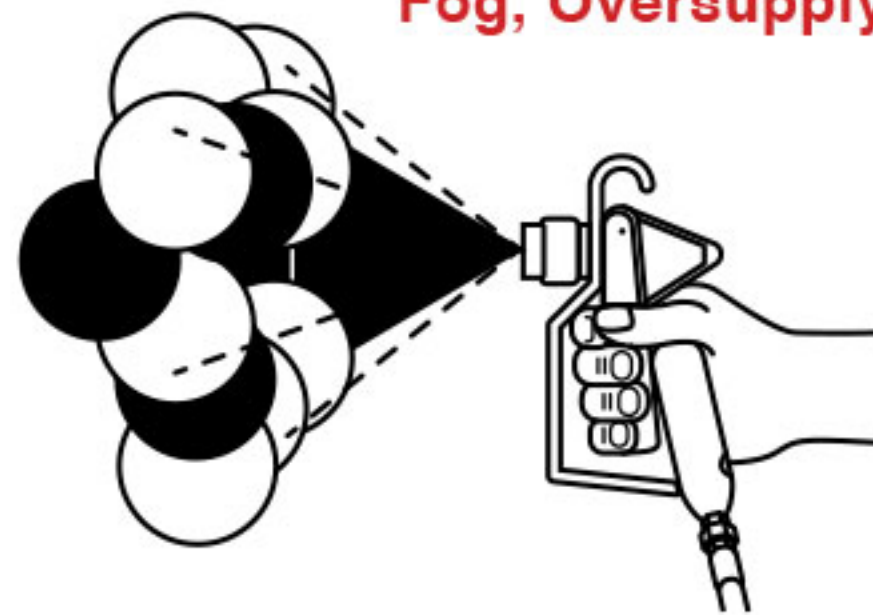

Figure 4
4. Too much pressure will result in excess fog and overspray, excessive tip wear, and increased sprayer wear and tear. (See Figure 4)